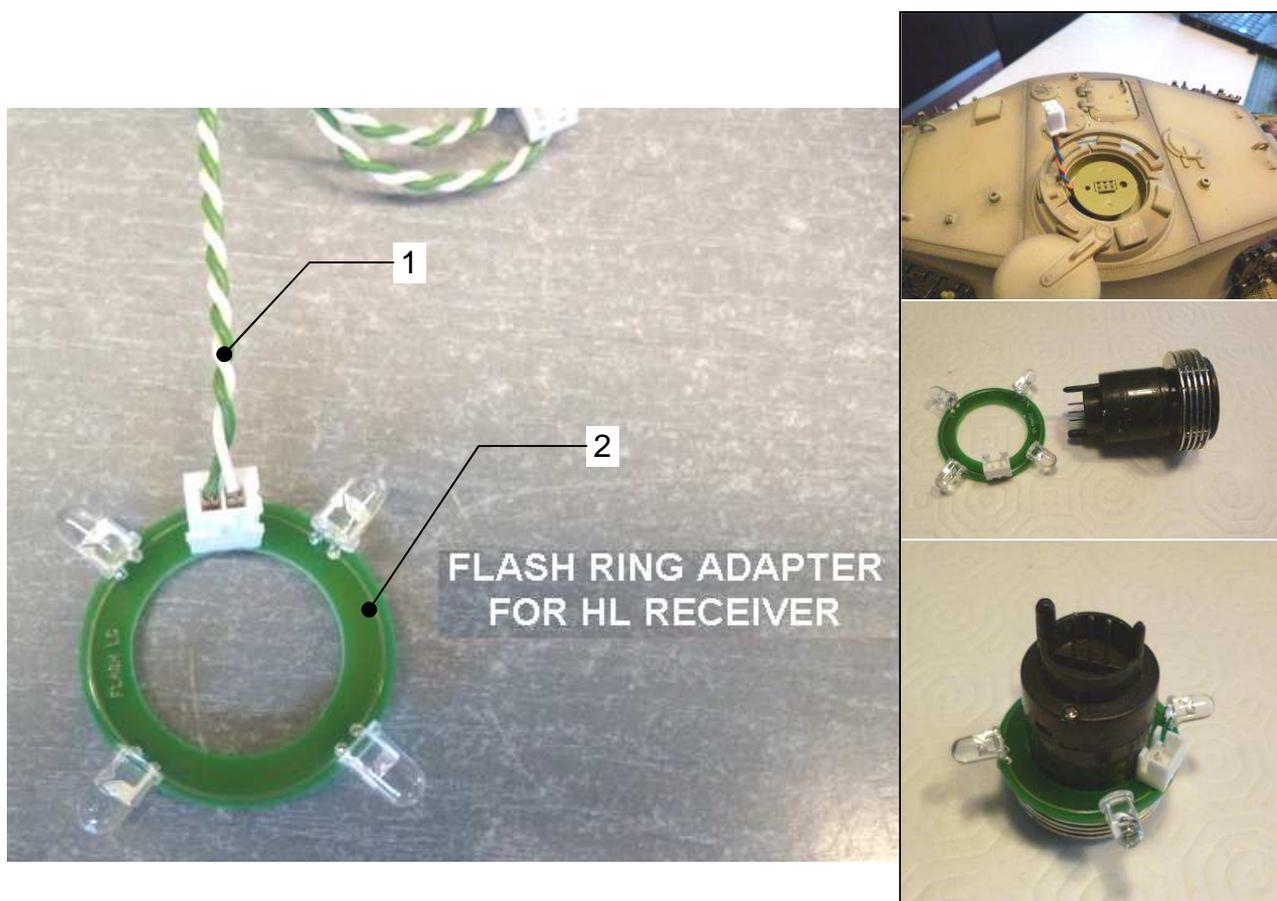

Fig. 5 Led flasher ring
- Get the connecting cable (1-Fig. 5) pass through the turret roof near the HL receiver plug
- Fit the led ring (2-Fig. 5) onto the HL receiver from the bottom and fix it using a double-sided tape, or some glue.
- Plug the HL receiver into its base and connect the cable (1) to the led ring (2).